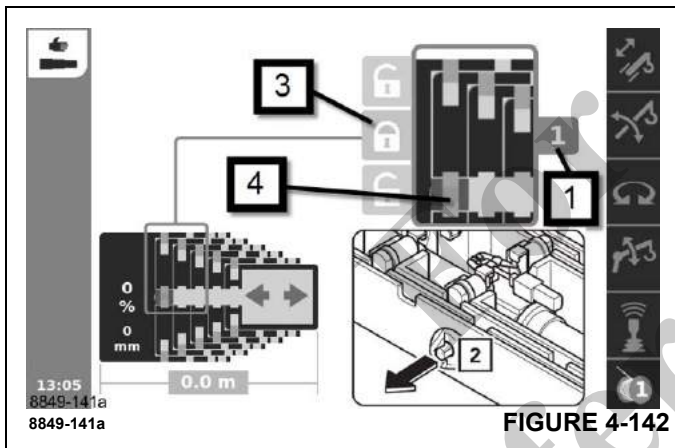

FIGURE 4-142
Refer to (Figure 4-142).
- Move the telescoping cylinder to the desired locking point, e. g. to telescopic section (1) (Figure 4-142). Wait until the display:
- shows the desired telescopic section (1);
- the symbols (4) are shown.
- Select the symbol (3).
- Confirm the selection – the locking pins (2) will extend – symbol (4) green.